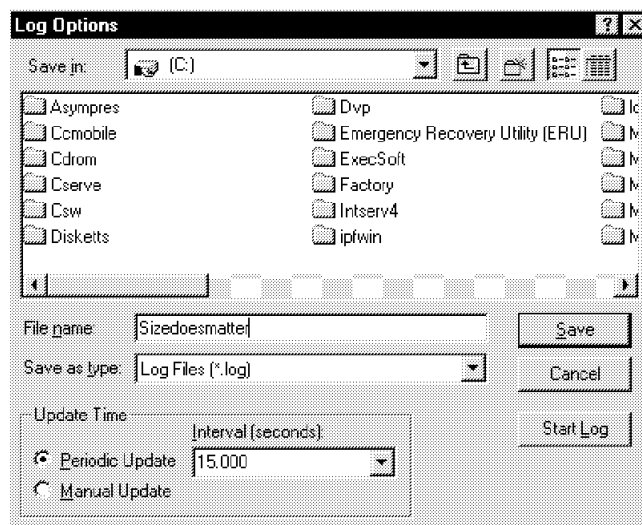

Figure 104. Log Options Window
Once you have selected the objects to log, you can choose the **Options**→**Log** or click on smart icon . You will see a window similar to the one in Figure 104.
**Note:** To create a log file, first select the objects that you want to capture data from. If you have not selected any objects, the Start Log button shown in Figure 104 on page 127 will be grayed out.